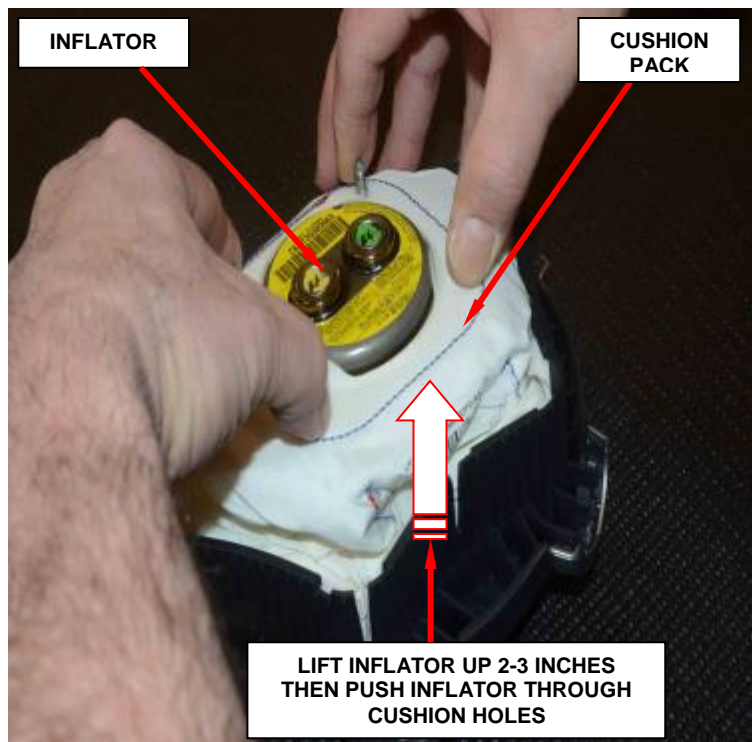

Figure 8 – Lift Cushion Pack
- b. Grab the inflator studs and gently lift the inflator in the cushion pack up about 2 to 3 inches (Figure 8).
- c. In this elevated position, gently push the inflator only straight down into the cushion pack until the inflator flange studs are out of all four cushion holes (Figure 8).